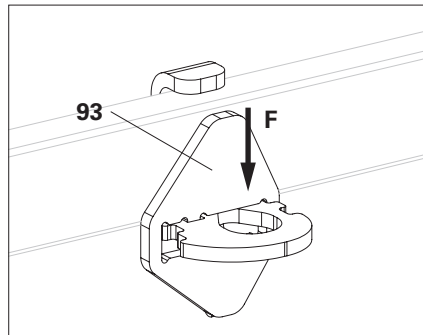

Fig. A11.06
- Perm. F = 1.67 kN (Fig. A11.06)